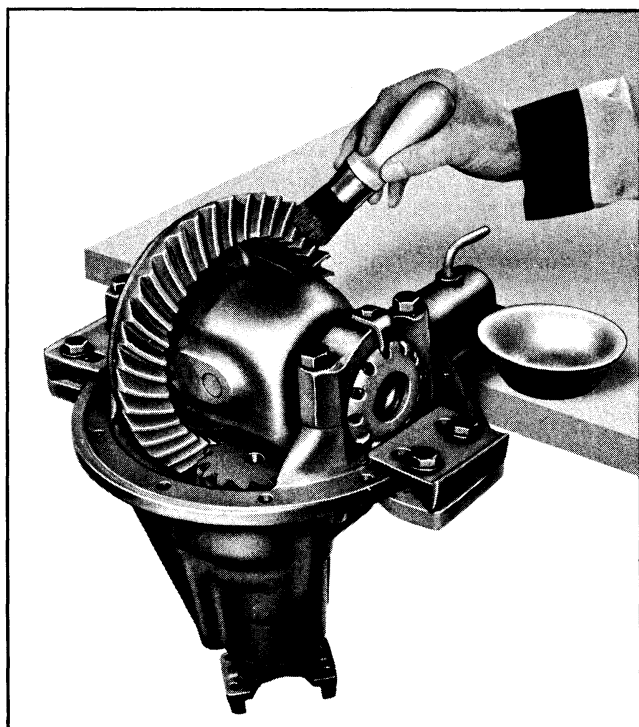

Fig. 4-22 Applying Red Lead to Gear Teeth
1. Mix a small amount of powdered red lead (available from paint manufacturers and suppliers) with a drop of engine oil and apply this mixture sparingly to all ring gear teeth using a medium stiff brush (Fig. 4-22). When properly used, area of pinion tooth contact will be visible when hand load is applied.